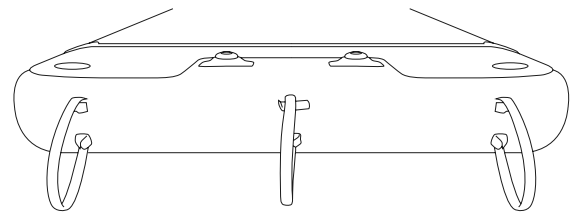

Fig 13 – Undo Velcro straps
2. Undo the Velcro fastenings on the Air Toggle loops you require to use at either end or on either side of the Platform (Fig 13). Always keep the Air Toggle loops not in use securely fastened.